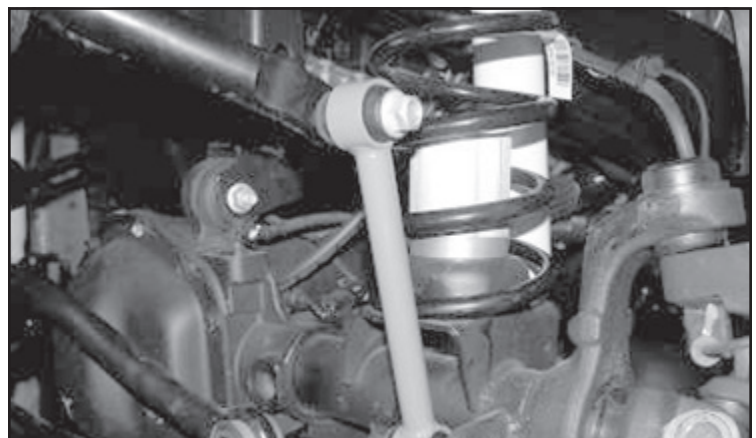

FIGURE 27 - STEP 17
17. Locate FT50261 Front Sway Bar Endlinks, FT50048 & FT5009 bushing and sleeve kits. Press one bushing and one sleeve from the supplied bushing kit into each end of the end link. With the factory hardware, connect the new end link to the sway bar, then using the supplied 1/2" x 2 3/4" bolt, nut, and washers connect to the lower sway bar mount. Torque the upper hardware to 40 lbs and the lower hardware to 75 ft-lbs. **SEE FIGURE 27**